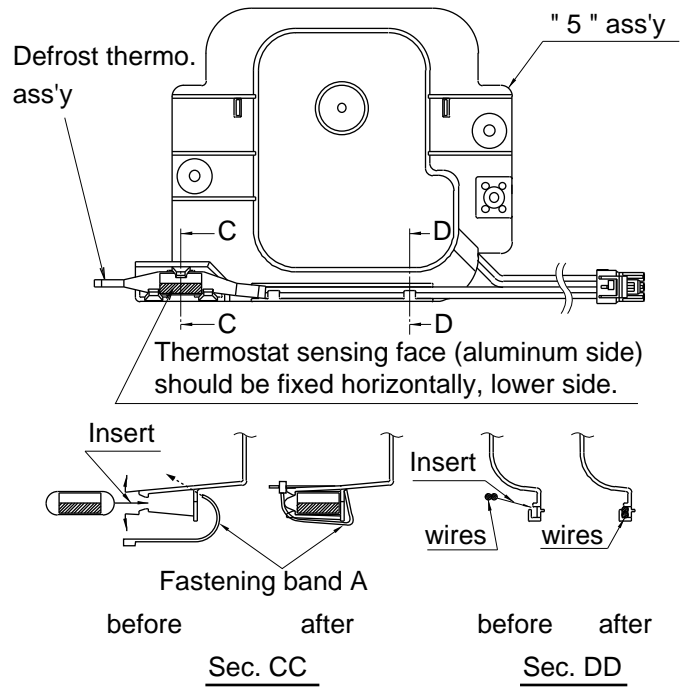

Fig. A-14
6. Set Defrost thermo. ass'y to " 5 " ass'y as shown in Fig. A-14.